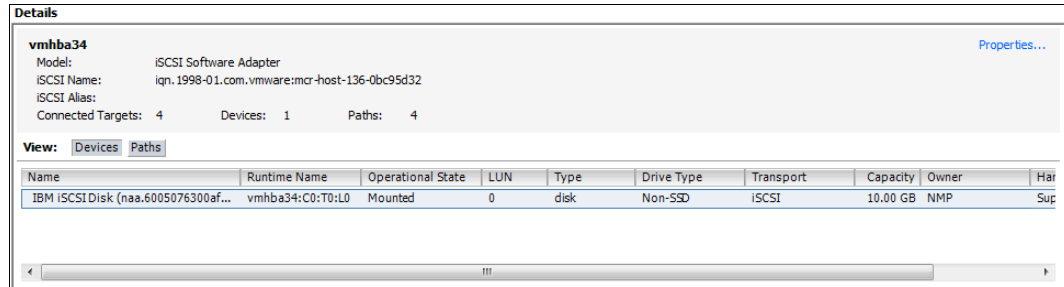

Figure 5-62 The mapped volumes listed in VMware vSphere Client
- In **Storage Adapters**, click the iSCSI Software Adapter. When the rescan has completed, the mapped volumes are listed in the adapter details, as shown in Figure 5-62.